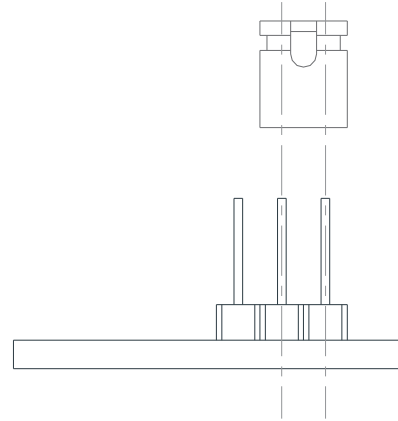

Figure 2
- 2) When customer needs remote lamp, please insert terminal to Y. ( See Figure 2 below)